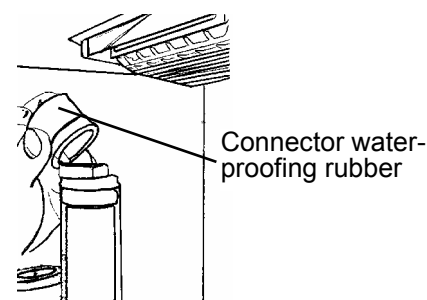

Fig. 2
6. Take out the fluorescent light and remove the connector water-proofing rubber at both ends. As shown in Fig. 2, shift the rubber by rolling it.